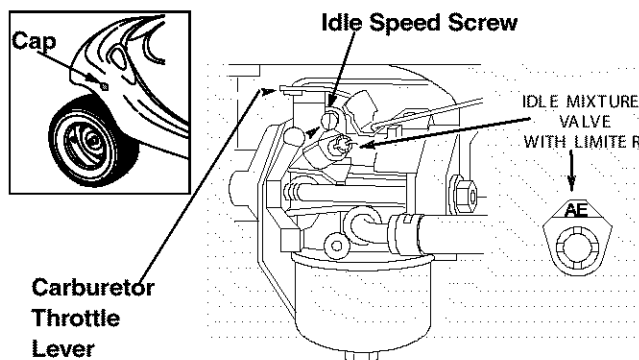

Figure 16
4. Remove the black cap from the rider frame. See Figure 16 . Access the carburetor throttle lever and idle speed screw from this opening.